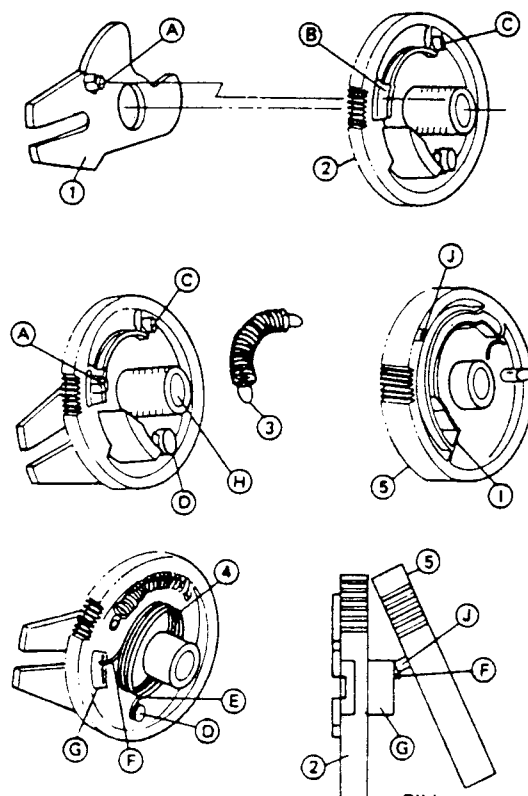

Figure 1-3.
2. Turn the phase gear ⑤ clockwise until it stops.
3. After setting up the worm wheel assembly, fit the alignment mark ⑥ of the worm wheel assembly to the alignment mark ⑦ of the phase gear. Then insert them into the frame shaft: this time, check that the tab ⑧ of the cassette slider assembly is engaged with the drive arm groove.
4. Align the tab ⑨ of the timing lever with the worm wheel groove ⑩ and secure the worm wheel assembly with the screw ⑪.
5. Align the tab ⑫ of the timing lever with the groove ⑬ of the cassette mode switch ⑭, and secure the cassette relay PWB with the frame's tab ⑮: this time, check that the two tabs ⑯ of the cassette mode switch are surely engaged with the cassette motor bracket groove ⑰.
• Set up of worm wheel assembly (Fig. 1-3)